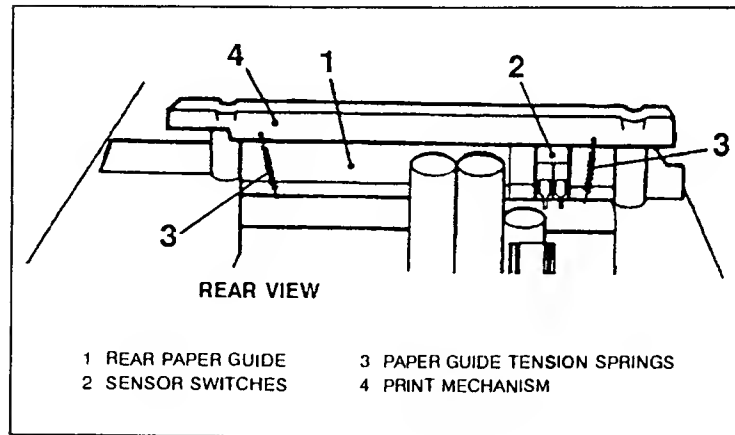

Figure 6-25. Print Mechanism Sensor Switches
- e. Remove the two springs connected between the rear paper guide and the print mechanism (see Figure 6-25 below). These springs tension the paper guide to the print mechanism.